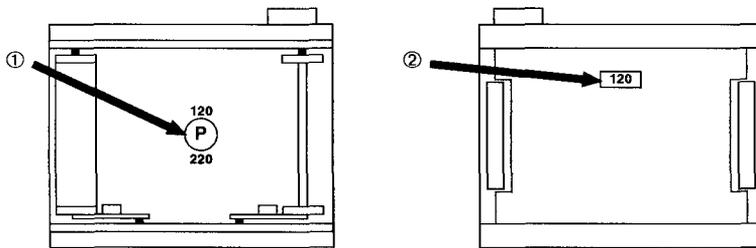

Figure 3 The pressure plate selector dial (Ⓢ) and pressure plate in position for 120 film. A window (Ⓢ) in the pressure plate displays the current film size.
- Step 2: With your fingertips, push in the pressure plate selector dial (Ⓢ in Figure 3). This lifts the pressure plate up and away from the other side of the cartridge.